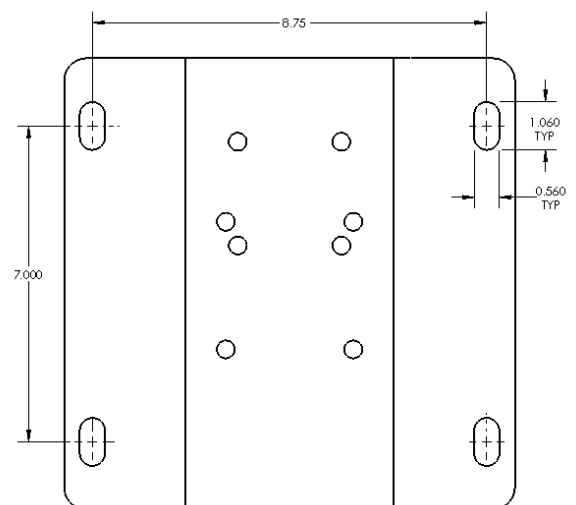

Figure 2
3. Secure pump to stable structure to avoid tipping, using four (4) holes on outer edge of standard foot mount. See Figure 2.